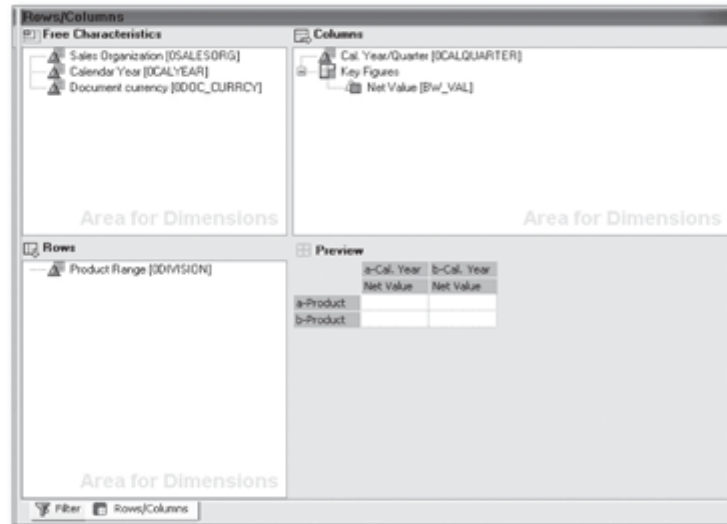

Figure 12.74 Define Input-Ready Query
3. Drag and drop all of the necessary characteristics and key figures from the aggregation level in the query definition (Figure 12.74)